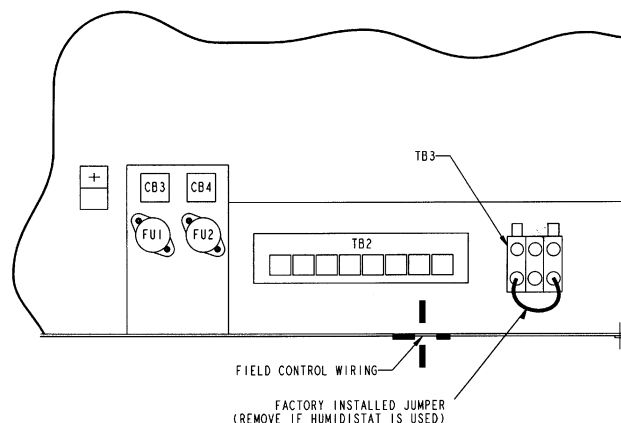
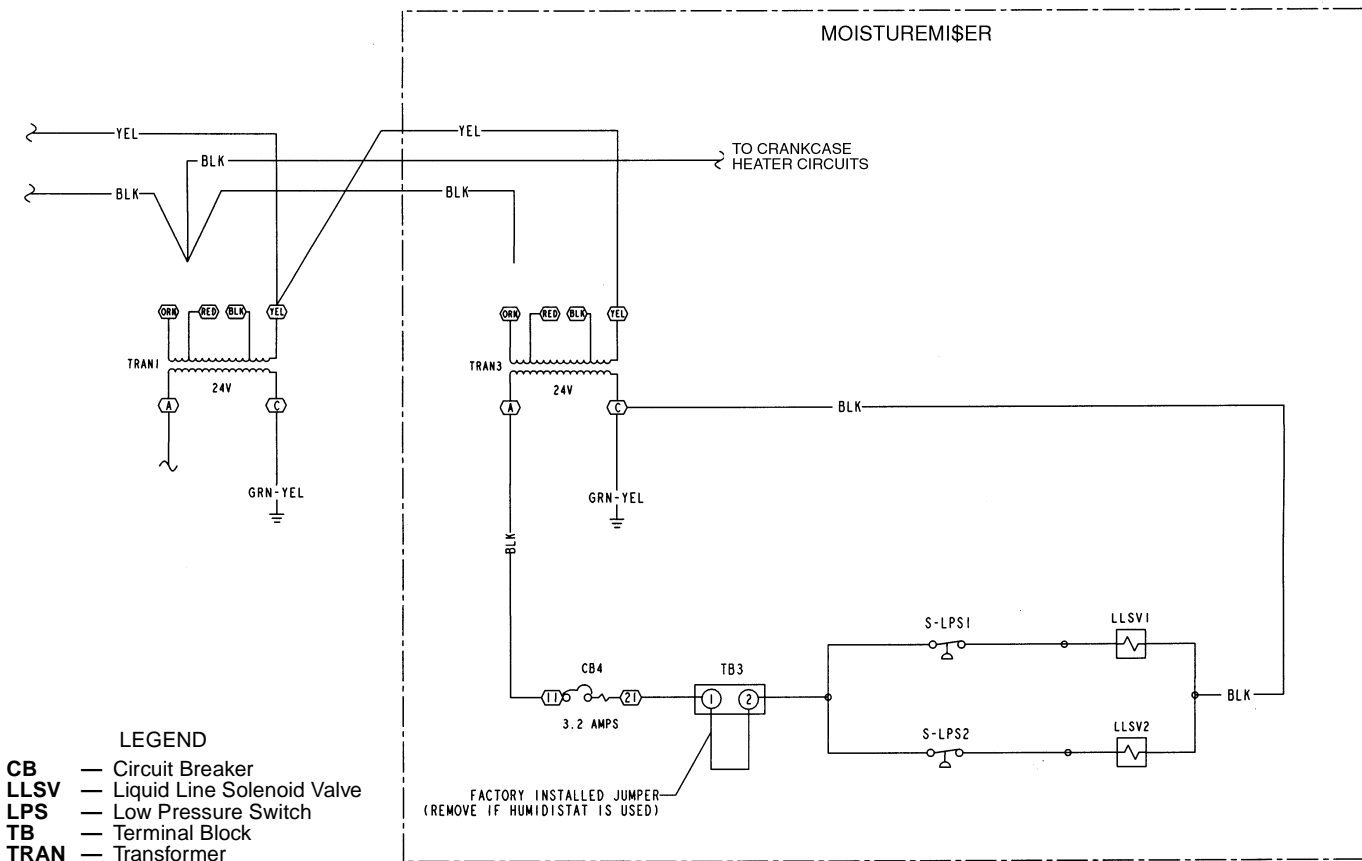

Fig. 28 — Typical MoistureMiser Dehumidification Package Control Box
Fig. 29 — Typical MoistureMiser Dehumidification Package Humidistat Wiring Schematic
2. Route thermostat cable or equivalent single leads of colored wire from Humidistat terminals through conduit in unit to the low voltage connection on the 2-pole terminal strip (TB3) as shown in Fig. 28 and Fig. 29.